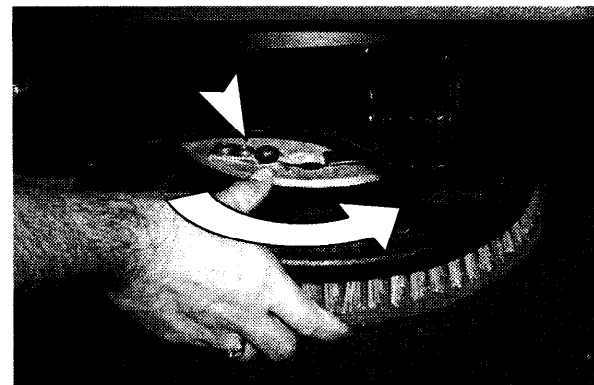

Figure 31
4. Grip brush/pad driver and give it a quick turn counter-clockwise to release from spring clip (Fig. 31).